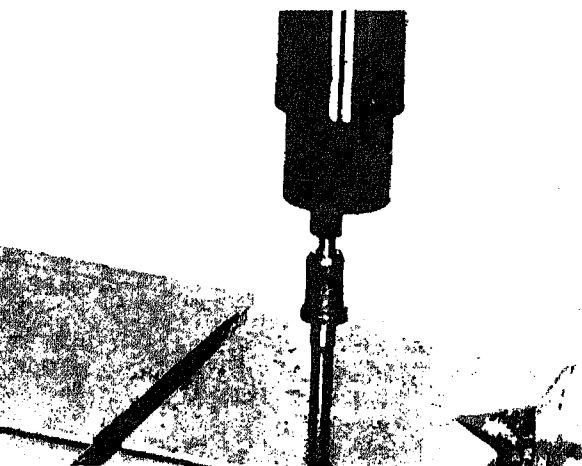

Fig. 503-13. Pressing tachometer gear on shaft
1. Place bronze bushing on tachometer shaft with chamfered end of bushing toward gear end. Press gear onto shaft until flush with end of shaft. Fig. 503-13. Check to see that shaft turns freely in bushing.